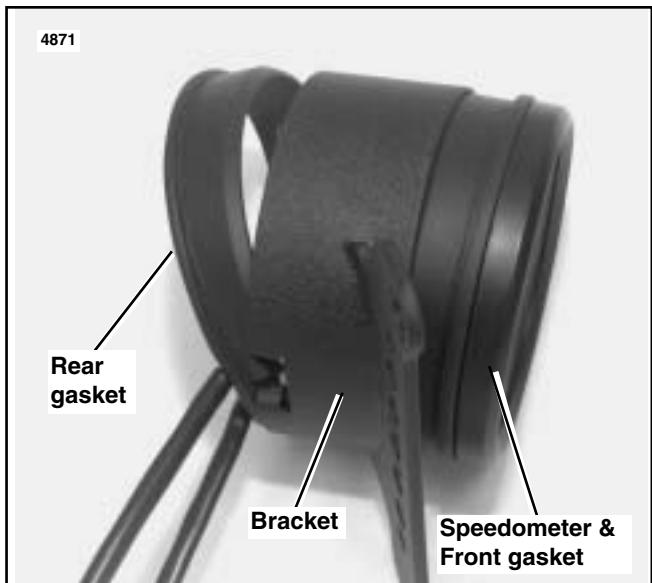

Figure 3. Speedometer and Gaskets in Single Instrument bracket
- 5b. See Figure 3. Note position of rear speedometer gasket and remove it. Push on rear of speedometer while simultaneously pulling speedometer and front gasket from bracket. *Do not remove front gasket from the speedometer.*
- See Figure 3. Note position of rear speedometer gasket and remove it. Push on rear of speedometer while simultaneously pulling speedometer and front gasket from bracket. Do not remove front gasket from the speedometer.